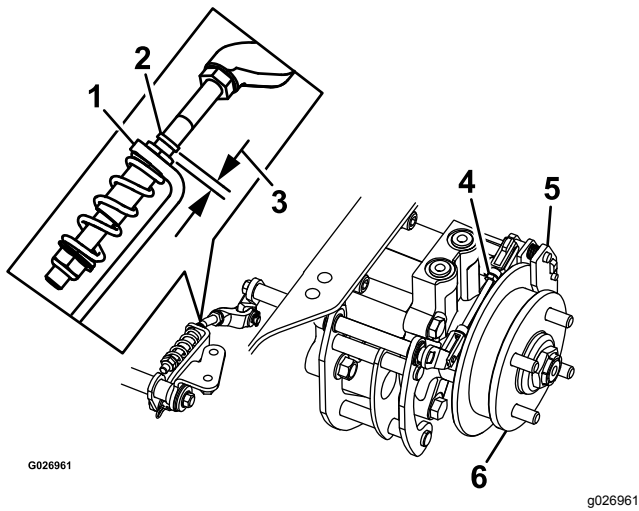

Figure 72
8. Check to see if there is a visible gap between the L-bracket and the linkage stop (Figure 72).